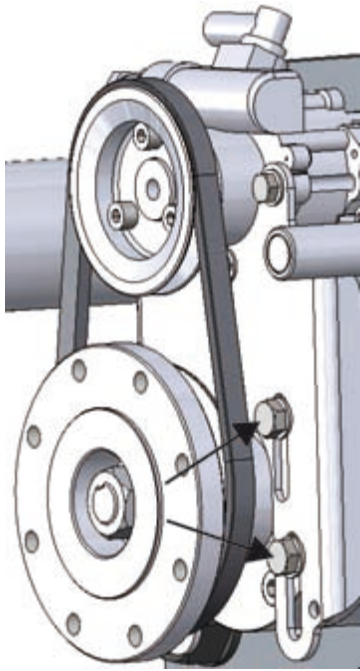

Figure 73. Hydraulic pump bracket fastening screws
The bracket is attached to the front surface of the bearing housing with four screws, two on each side of the pump (figure 73).
1. Loosen the fastening screws of the hydraulic pump rack (figure 73).
2. Set the bracket against the front surface of the bearing housing and tighten the fastening screws (figure 73) loosely.